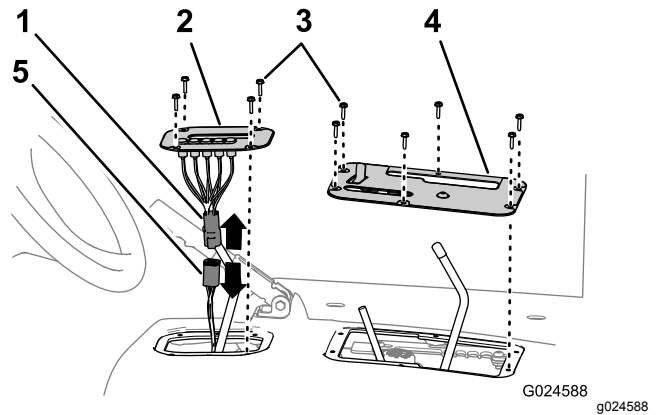

Figure 5
2. Remove the 4 hex-head screws that secure the shift-indicator cover to the seat shroud (Figure 5).
3. Lift the shift indicator up, disconnect the indicator connector from the machine-harness connector, and remove the indicator cover from the machine (Figure 5).
4. Remove the 6 hex-head screws that secure the control cover to the seat shroud, and remove the control cover (Figure 5).